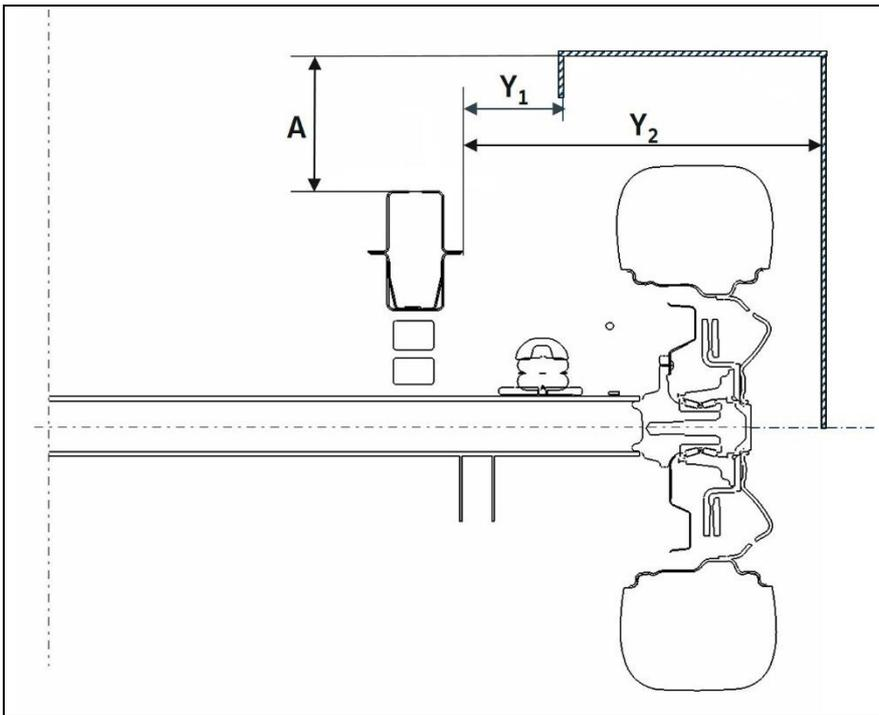

Fig. 4: A-A cross-section, wheel clearance for max. wheel housing trim up to wheel centre
** Minimum wheel housing width with overlaps to centre of axle, measured up to the frame longitudinal member. see Fig. 4